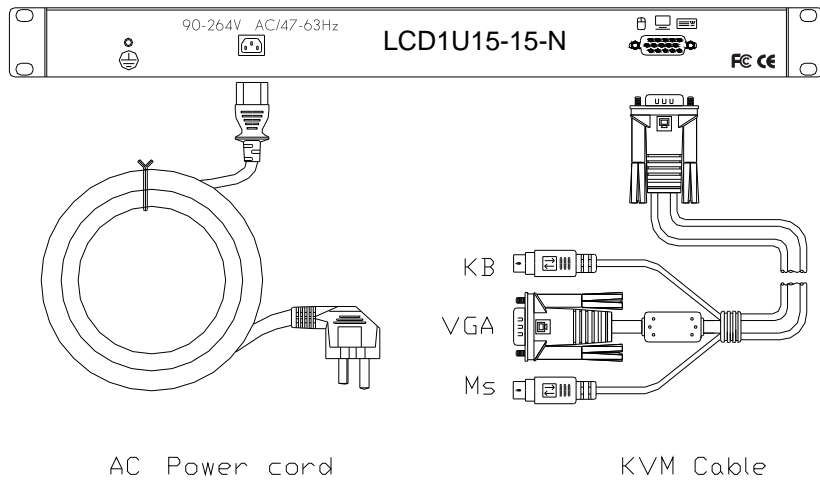

Fig.6
- \* The AC power cord (for LCD1U15-15-N ) plugs in power socketsee fig.6